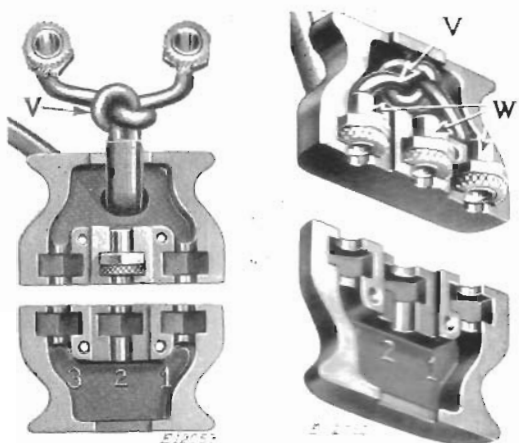
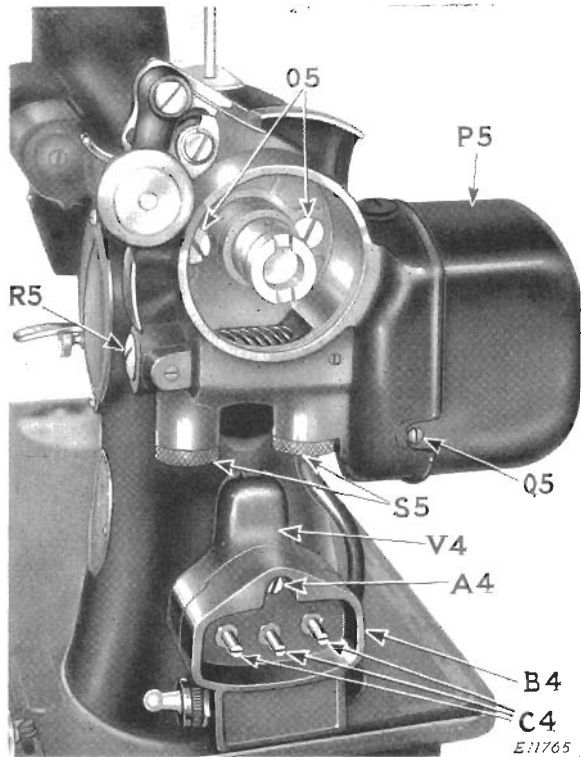
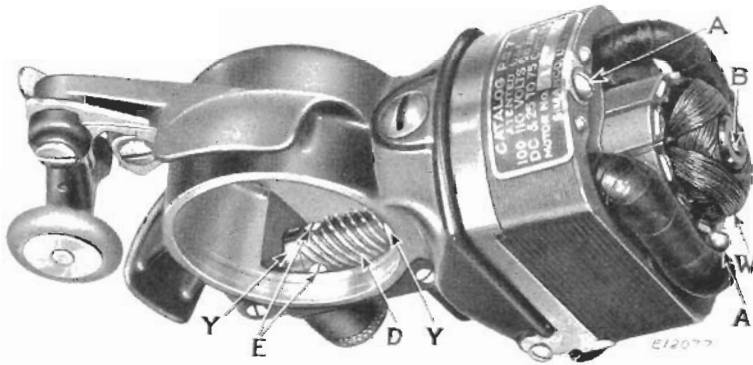
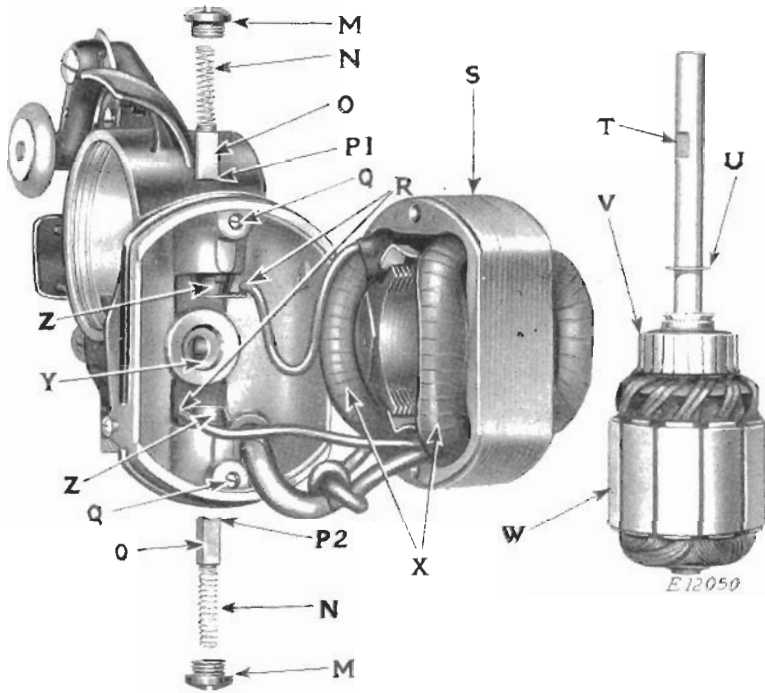

FIG. 13
FIG. 15. MACHINE 201-2 AND MOTOR
FIG. 16. MOTOR WITH COVER REMOVED
FIG. 17. MOTOR DISASSEMBLED
Inspect the soldered connections (R, Fig. 17) at the brush tubes. See "Replace Field Core with Coils," page 23.
**Three-Pin Terminal Plug**, shown in Figs. 13 and 14, has three sleeves (W, Fig. 14) which are engaged by the three pins (C4, Fig. 15) when the plug is pushed into the three-pin terminal block (B4, Fig. 15).
Note that the two wires are knotted together as shown by (V, Figs. 13 and 14). This is to prevent strain or breakage in case the plug is pulled from the three-pin terminal by grasping the wires instead of the plug. Therefore, the knot is placed so that it, instead of the connections, bears the strain when the plug is drawn out of the terminal.
Take out screw (A4, Fig. 15) and remove the three-pin terminal (B4) from the terminal bracket (V4).
**Remove Motor Cover.** Loosen the two screws, one of which is shown at (Q5, Fig. 15) and remove motor cover (P5, Fig. 15) by pulling and, at the same time, rocking it up and down slightly, being careful to prevent inside of cover damaging the field coils.
**Remove Brushes—Machine 201-2.** Take out screw caps (M, Fig. 17). When the screw caps are removed, the brush springs may protrude from the screw holes, and brushes can then be easily withdrawn. However, should difficulty be experienced in removing the brushes, this can be done conveniently after removal of the armature in accordance with "Remove Armature" following. It is advisable to mark the brushes at (P1 and P2, Fig. 17) to make sure that they will be replaced in the same relative position as before removal.
screws (E, Fig. 16) in the spiral gear (D, Fig. 16) so that the armature shaft can be withdrawn from its bearings. Remove the armature (W, Fig. 16).
If wiring is not damaged, clean commutator (V, Fig. 17) with a dry, clean cloth before assembling motor. If it is impossible to get the commutator bright by this means, use an ordinary rubber eraser. **Never use anything else on a small motor commutator.**
**Remove the Field Core with Coils—Machine 201-2.** Loosen the two screws (A, Fig. 16) and remove the field core (S, Fig. 17) from the commutator end cover which, in this case, is part of the motor frame. The removal of the field core must be done carefully to prevent damage to the field coil insulation, and to prevent strain at the soldered brush tube connections (R, Fig. 17).
**Clean Brushes and Brush Tubes—Machine 201-2.** Thoroughly clean the carbon brushes (O, Fig. 17), inner walls of brush tubes and inside of end covers, with a dry, clean cloth.
**Inspect Wire Connections to Brush Tubes—Machine 201-2.** Examine both field wire connections (R, Fig. 17) at the brush tubes. If broken, these connections should be securely soldered to the lugs of the brush tubes. Any loose strands of wire should be cut off.
**Remove and Replace Brush Tubes—Machine 201-2.** After the brushes and brush tubes have been cleaned, the brushes should slide freely in the brush tubes. If they do not, the brush tubes should be replaced by new ones. The new brush tubes must be replaced in the same manner as the old tubes, viz., firmly positioned in the insulating bushings (Z, Fig. 17), and with the field leads properly soldered to the lugs of the new tubes, as shown by (R, Fig. 17).
**Remove and Replace Insulating Bushings—Machine 201-2.** If the threads in the insulating bushings (Z, Fig. 17) and on screw caps (M, Fig. 17) become stripped, these parts should be replaced by new ones. When these bushings require replacement, the brush tubes also should be replaced with new ones. Do not attempt to use the old brush tubes in the new bushings. Loosen the two screws at (Q, Fig. 17) to release the bushings (Z, Fig. 17). When the new bushings are in place, tighten the screws (Q, Fig. 17).
**Replace the Field Core with Coils.** After the insulating bushings are replaced, the field coil wires properly soldered to the brush tubes as shown at (R, Fig. 17) and brush tubes in place in insulating bushings (Z, Fig. 17), put field core (S, Fig. 17) in place on commutator end cover, being careful not to damage field coil insulation. When the field core is properly seated on commutator end cover, insert and tighten screws (A, Fig. 16).
When the armature was removed, as instructed on page 22, the spring-pressured grease wick for each of the two bearings (Y) projected into the shaft bearings. Therefore, before replacing the armature and shaft, remove the two grease wicks in order that armature shaft may be inserted in its bearings without damage to the wicks. To do this, remove cap screws (S5, Fig. 15) and, using a small screw driver, carefully remove the grease wick spring retainer, together with grease wick spring and grease wick from each grease cup.
Put the spiral gear in position between the two bronze shaft bearings (Y, Fig. 16), having the two set screws (E, Fig. 16) toward the cap screw (R5, Fig. 15) in order that one of the two screws (E) can engage the "flat" (T) on the armature shaft. Insert armature (W) so that the fibre washer (U) is against the first of the two shaft bearings (Y, Fig. 17).
When armature shaft is in place in its bearings and through spiral gear (D, Fig. 16), the "flat" (T), against which one of the two set screws (E, Fig. 16) is to be tightened, is covered. Its position is, however, indicated by the "flat" at (B, Fig. 16) at the cover end of the shaft. Be sure that one of the two screws (E, Fig. 16) engages the "flat" (T), then tighten both screws (E).
Replace the grease wicks, making sure that the inner ends of the wicks are against the armature shaft. Then put the grease wick spring retainers in place in the grease cups, having the tab, at the outer end of each retainer, over the outer end of the grease wick spring. Fill the grease cups and replace cap screws (S5, Fig. 15).
**Replace Brushes—Machine 201-2.** When inserting the brushes in the brush tubes, make sure that their concave ends (P1 and P2, Fig. 17) correspond with the convex surface of the commutator, and that they are replaced in the same relative position as before removal. See "Remove Brushes," page 22. Hold end of brush spring and tap the brush against the commutator until contact is clearly heard. Then insert and tighten the two screw caps (M, Fig. 17), being careful not to strip the threads.
Place the motor frame, with motor, on its seat on the machine arm, and insert and tighten the two screws (O5, Fig. 15). Fasten the three-pin terminal (B4) to its bracket (V4) by means of the screw (A4).
Remove the two cap screws (S5, Fig. 15) from the two grease cups and clean out the interiors of the cups. Insert the tip of the motor lubricant tube into the grease cups and squeeze about a quarter of the tube of lubricant into each grease cup, then replace and tighten the cap screws (S5, Fig. 15).
See Instructions and Figs. 13 and 14, page 20.